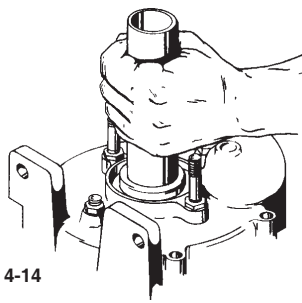

Figure 4-14
23. Install the seal cup with the face of the seal towards the rotating element. A short length of pipe will help to tap the cup down until it contacts the ring. (refer to figure 4-14)